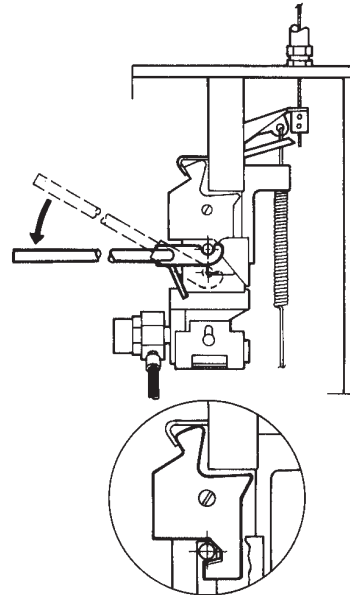

FIGURE 51
- 11. With a downward motion of the cocking lever, raise the cocking pin until trip hammer indented surface moves underneath the pin. See Figure 51.